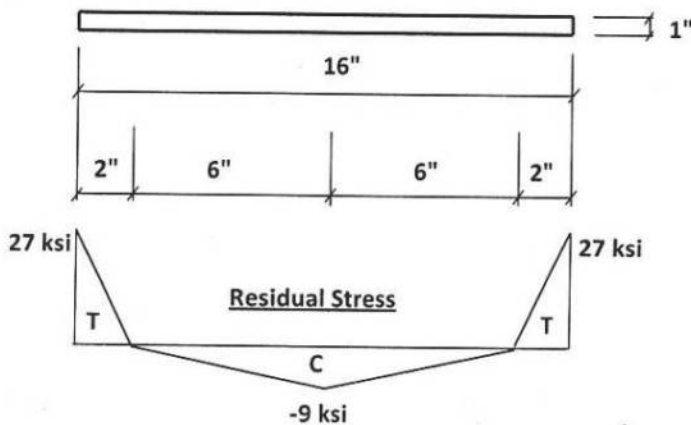

Fig. 5
8. The residual stress for a 16x1-in. plate to be used as a tension member is shown in Fig. 5. Determine the average stress in the plate at an imposed tensile strain of 0.0014. Given: $F_y=36$ ksi; $E=30000$ ksi. 8 1/3